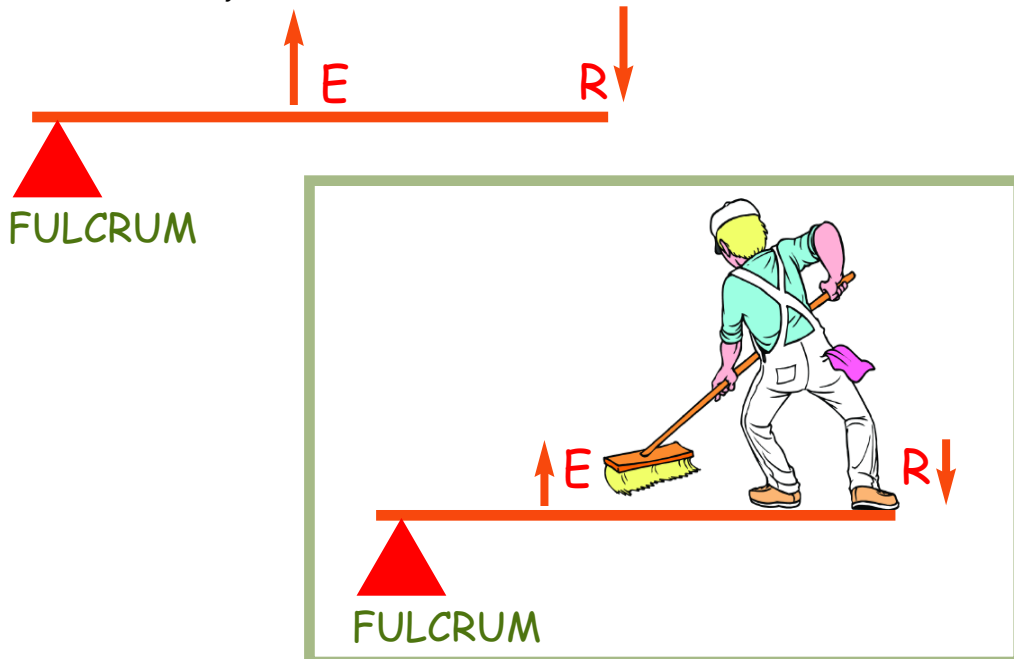

Figure 3 Third Class Lever
Third class lever (FER) - The *Effort (E)* and *Resistance (R)* are located on the same side of fulcrum, but the *Effort (E)* acts between fulcrum and the *Resistance (R)* as shown in *Figure 3 Third Class Lever* shown below. Examples of a third class lever include a shovel and a broom. Large effort gains speed of motion in this type of lever. It is the most common lever type in the human body.